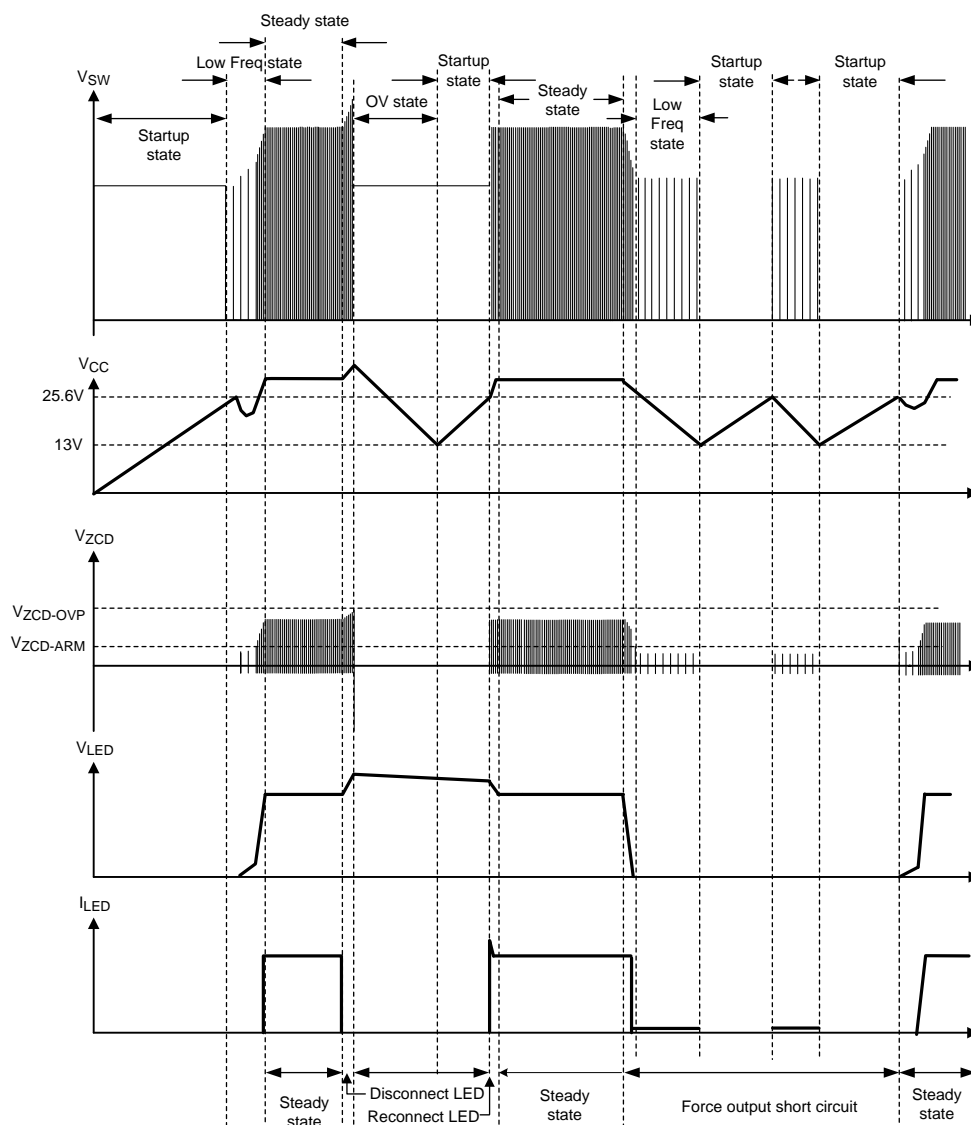

Figure 8. Auto Restart Operation
If the LED string is disconnected, V_{LED} increases and thus $V_{ZCD-PEAK}$ increases. When $V_{ZCD-PEAK}$ is larger than $V_{ZCD-OVP}$ for 3 continues switching cycles, the Over Voltage Protection (OVP) feature is triggered such that the TPS92310 becomes Over-Voltage (OV) state. In this case, the switching of Q_1 is stopped, and V_{CC} decreases owing to the power consumption of the internal circuits of the TPS92310. When V_{CC} drops below the falling threshold of $V_{CC-UVLO}$, the TPS92310 restarts, and re-enter into startup state (Figure 8).